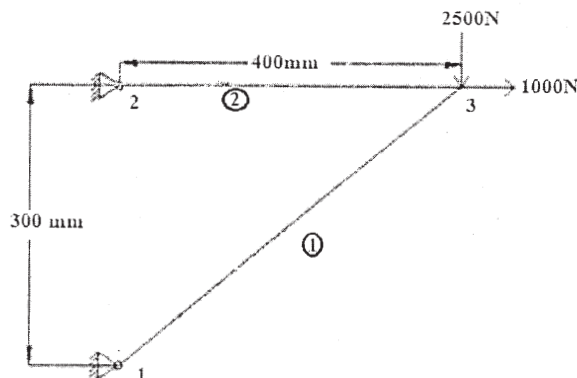

Fig. 4a
- Q4)** a) The two bar truss made of steel ( $E = 200 \text{ GPa}$ ) is as shown in the fig. 4a. Using finite element method, determine [10]